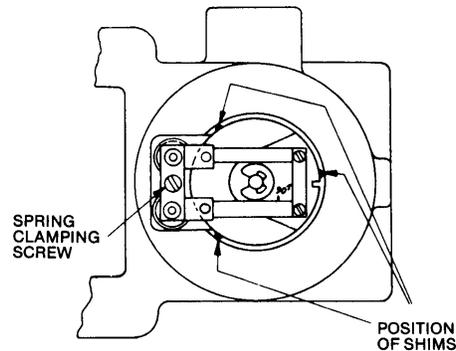

FIGURE 5-1 Coil Alignment
Refer to Figure 5-1 and use the following procedure.
2. Insert the shims between the coil and the housing at the points shown in Figure 5-1. Insert the shims until their ends are flush with the top surface of the housing. Then, raise the coil to a higher point on the shims by pulling the center shaft up.